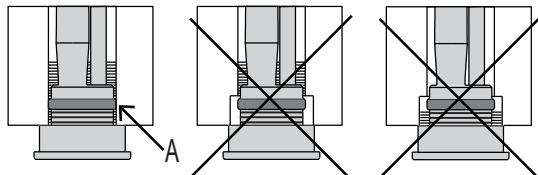

Fig. 4
6. Make sure that the MOBUS gasket is fully sealed to the female thread of the towel rail (Fig. 4).